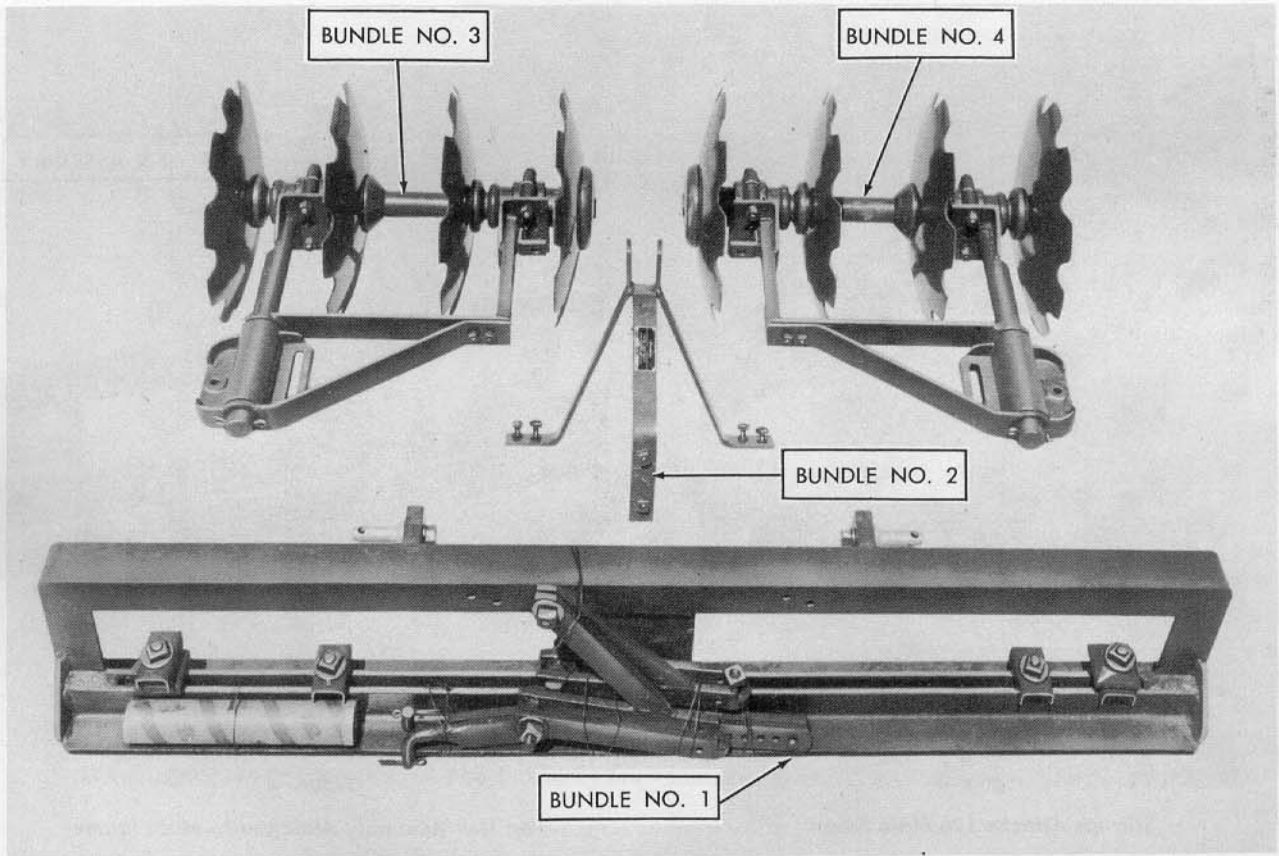

Figure 2
The Dearborn Reversible Bush and Bog Harrow is shipped in four bundles as shown in Figure 2. Check shipment against the following list and Figure 2, to make sure all parts are received.
1. Cut and remove wires from Bundle No. 1, Figure 2, and remove the four saddle trunnion bolts from the main frame. These bolts, together with the bolt guides, are secured in the slot between the two heavy angle members of the main frame. See Figure 2.